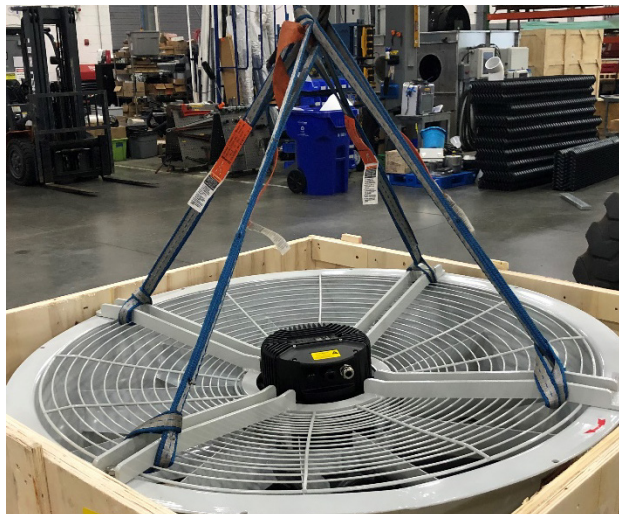

Figure 31. Fan and Motor Assembly Lift
- Lift the fan and motor assembly up and out of the fan deck. If a lifting device is utilized, lift the assembly via the support channels as shown in **Figure 31**. Be sure to rig the assembly to ensure no damage to the guard grill will occur during lift.